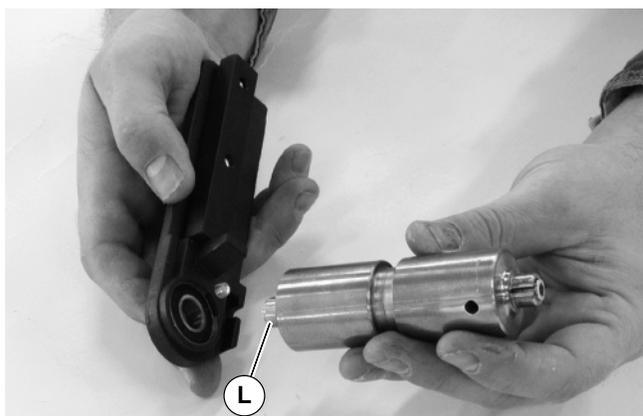

Figure 8
10. With bearing installed in head plate, press bearing on to shaft (L of Figure 8) of pulley. Repeat for both sides of pulley.